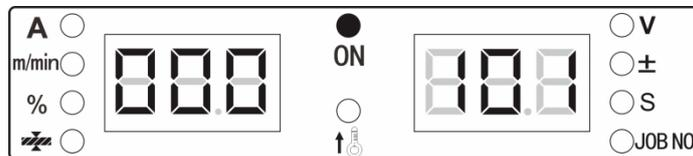

Fig. 3-19 Display interface
2. Press the "Enter" key to confirm. Then you can turn the welding power panel knob to query software version number, as shown in Fig. 3-19.